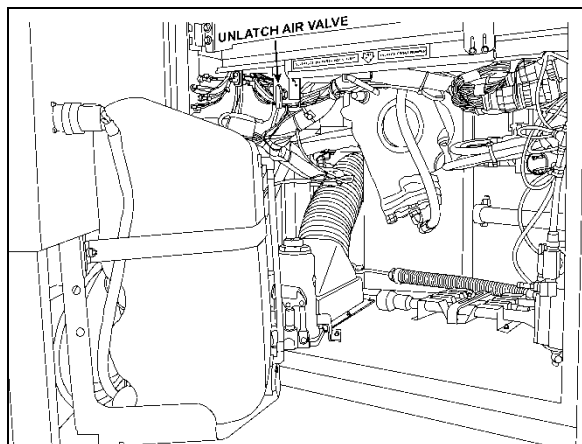

FIGURE 24: EXTERIOR UNLATCH AIR VALVE 12209
2. Unfasten the bolts fixing the door panel plates. See figure 24